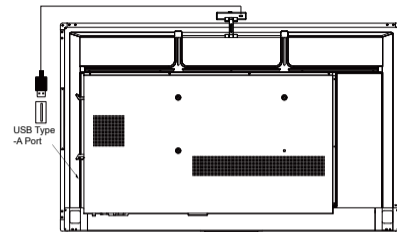

figure 3
Step 3: Please use the dedicated USB cable to connect the product with the display. As shown in figure 3.